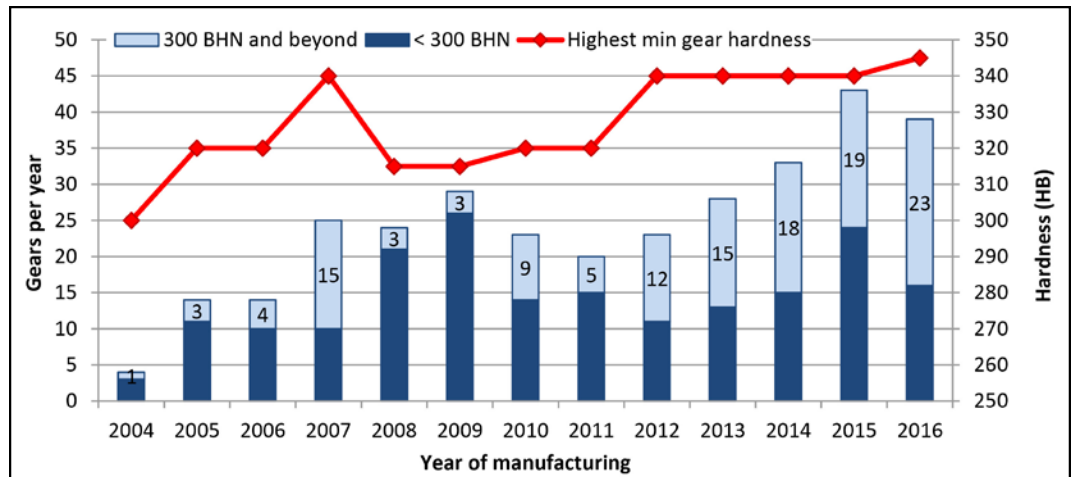

Figure 7 Gears below and beyond 300 HBW and highest minimum gear hardness, per year.
- 340 HBW is also a value seen on a regular basis on gears in service for a significant time to date (Fig. 7), with good reliability.
Figure 7 shows the number of gears manufactured for the mining industry by the company over the past 12 years.